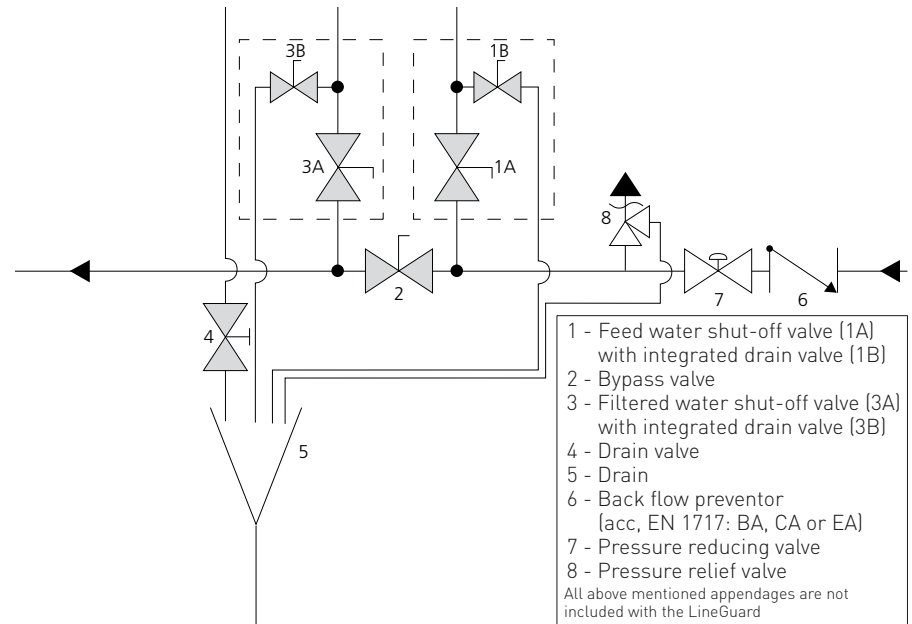

Figure 2: Partial piping schematic
A shut-off valve should be placed directly on both the feed and filtered water pipes of the LineGuard (figure 2, position 1 and 3). A shut-off valve with an integrated drain valve is recommended for ease of installation. We strongly recommend using a fully integrated controllable check valve (a backflow preventor) at the feed water side. This offers an efficient protection against pollution of the drinking water system.
The maximum system pressure should not exceed 4 bar. In case of potentially higher water pressure, a pressure reducing and relief valve (figure 2, position 7 and 8) must be installed between the main shut-off valve and the LineGuard. The diameter of the drain should at least be two pipe diameters (44 mm or 2 inch). Please note that the capacity of the drain should be large enough to discharge the flow during flushing cycles. A 'rule of thumb' in this: measure the flow of the waterline system without mounting the LineGuard (the maximum flow at this point of the system). The capacity of the drain should at least meet that flow. If this is somehow not possible, we advise you to mount a valve on the drain pipe. You should set this valve during the start-up procedure (see 3.5). Make sure you seal this valve afterwards.
- Close all the shut-off valves (figure 2, position 1A/2/3A).
- If the drain capacity is too low, water will come out of the drain opening. Set the drain valve (4) to prevent this from happening. Make sure you seal this valve afterwards.